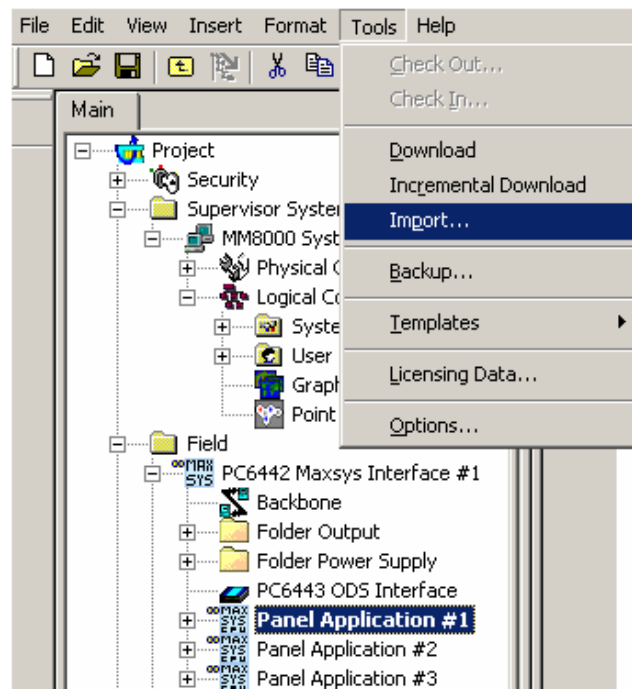

Fig. 15 Starting the import procedure
2. Select Tools→Import in the Composer menu (Fig. 15).